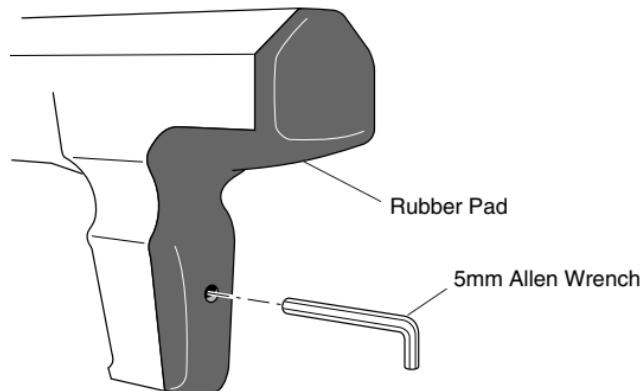

**Figure 4 - Removing Piston From Piston Sleeve**
- Remove piston assembly from piston sleeve (see Figure 4).